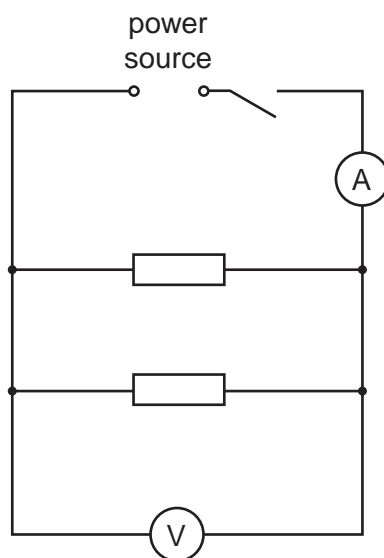

Fig. 3.1
- (vii) Sufficient connecting leads to set up the circuit shown in Fig. 3.1.
1. The circuit is to be set up for the candidates as shown in Fig. 3.1.
Reconnect the circuit as shown in Fig. 3.1.